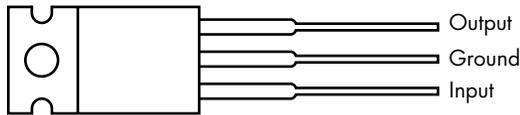

Figure 3-7: Pinout of the LM7805 regulator
11. Insert the LM7805 into the breadboard, as shown in Figure 3-5. (See Figure 3-7 for the pinout of the LM7805.)
4. Install the LM7805 regulator in the upper-right section of the PCB, and make sure it matches the pinout in Figure 3-7 and the schematic in Figure 3-4. You can use the heavy line in the silkscreen image of the PCB as a guide.